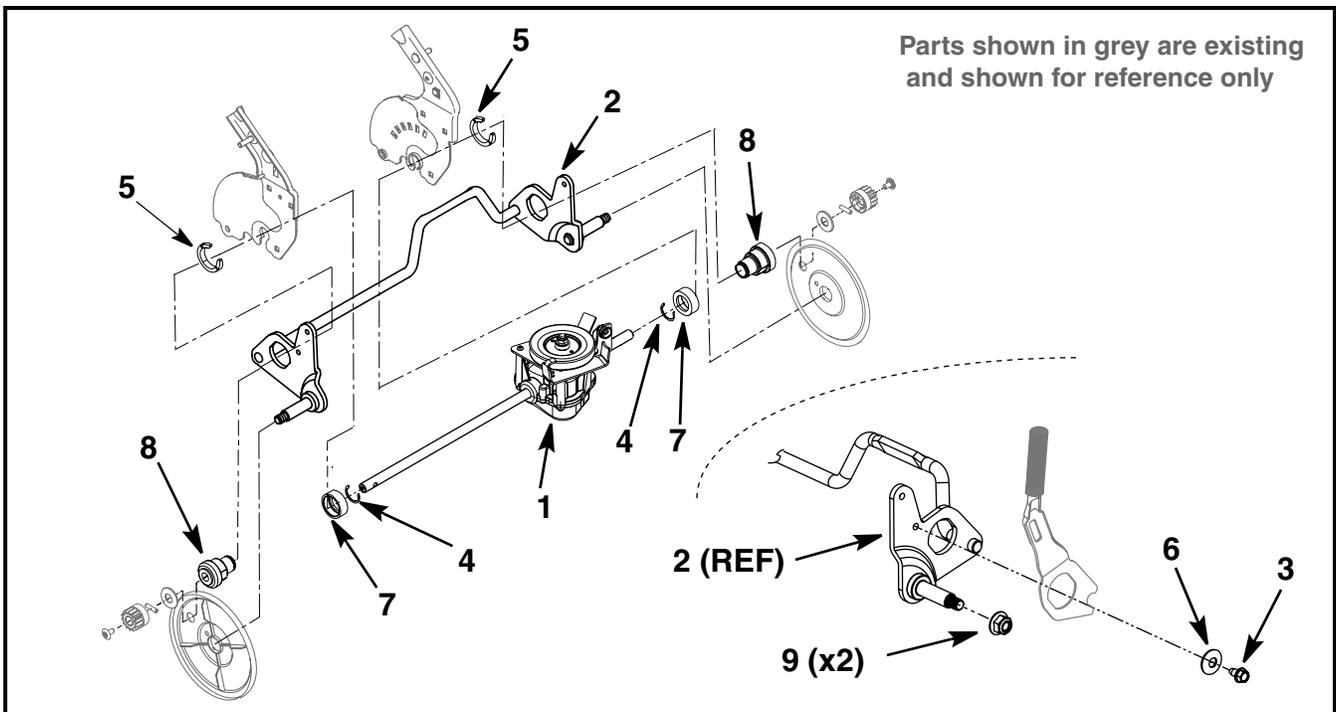

FIGURE 1
Service Kit Contents (See Figure 1)
45. Refer to Figure 1 and the **Drive System Disassembly** steps above to install the new Transmission Support Bearings (Item 8), the existing height adjuster lever (on the left side), new Bearing Support Spacers (Item 7), new Retainer Rings (Item 4) and the new Clip Spacers (Item 5).